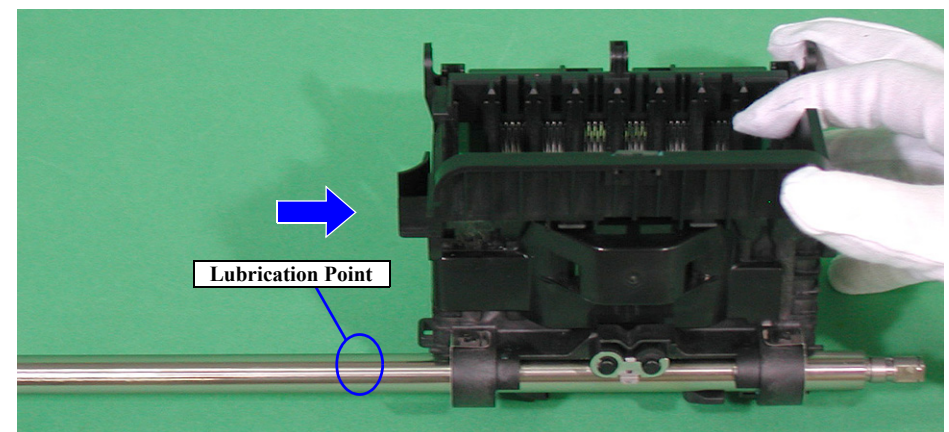

Figure 8-46. Carriage Shaft lubrication (3)
4. Move the Carriage Unit to the right end of the Carriage Shaft viewing the Unit from the rear, and lubricate the grease using a syringe at the point shown in Figure 8-46.